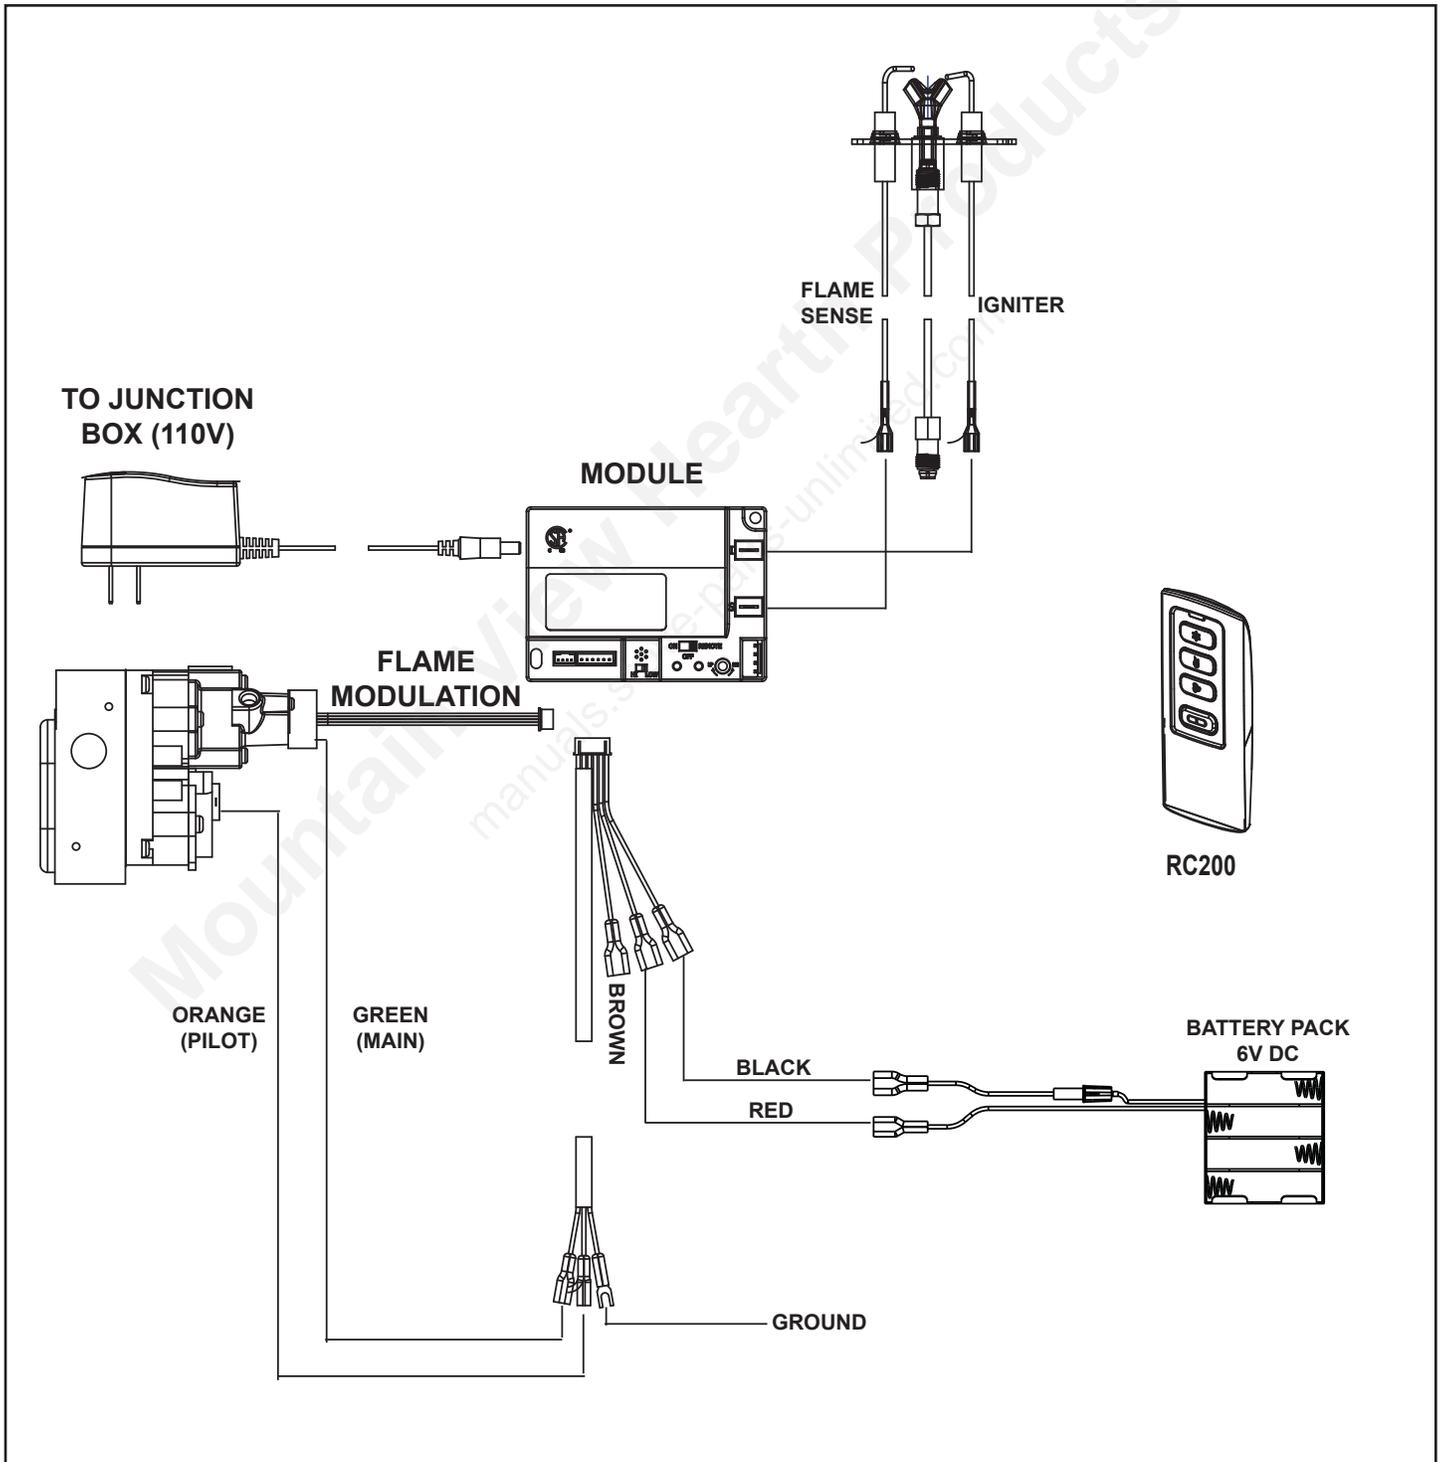

Figure 8.2 IntelliFire™ Plus Ignition (IPI) Wiring Diagram
- Refer to Figure 8.2, IPI Wiring Diagram.